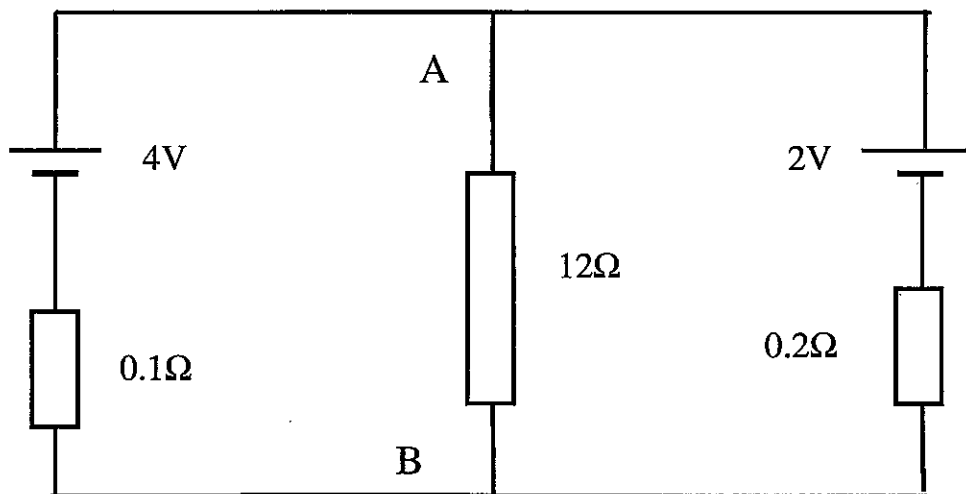

Fig Q1
1. (a) For the circuit shown in Fig Q1, determine EACH of the following:
- (i) the current in the  $12\Omega$  resistor; (6)
- (ii) the p.d. across each resistor. (6)
- (b) The  $12\Omega$  resistor is now removed from the circuit, calculate the voltage between points A and B. (4)